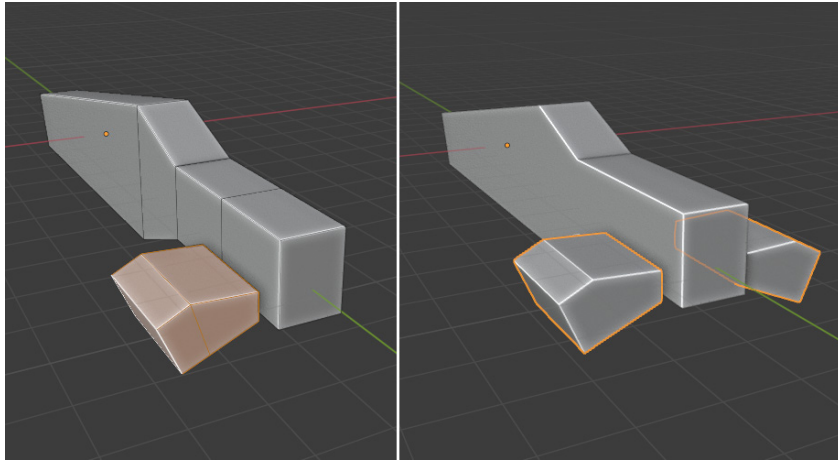

Figure 5.3 – Side shape
3. Add another cube to the side and reshape it, as shown in *Figure 5.3*. We are using a **Mirror** modifier on this shape to copy it to the other side.